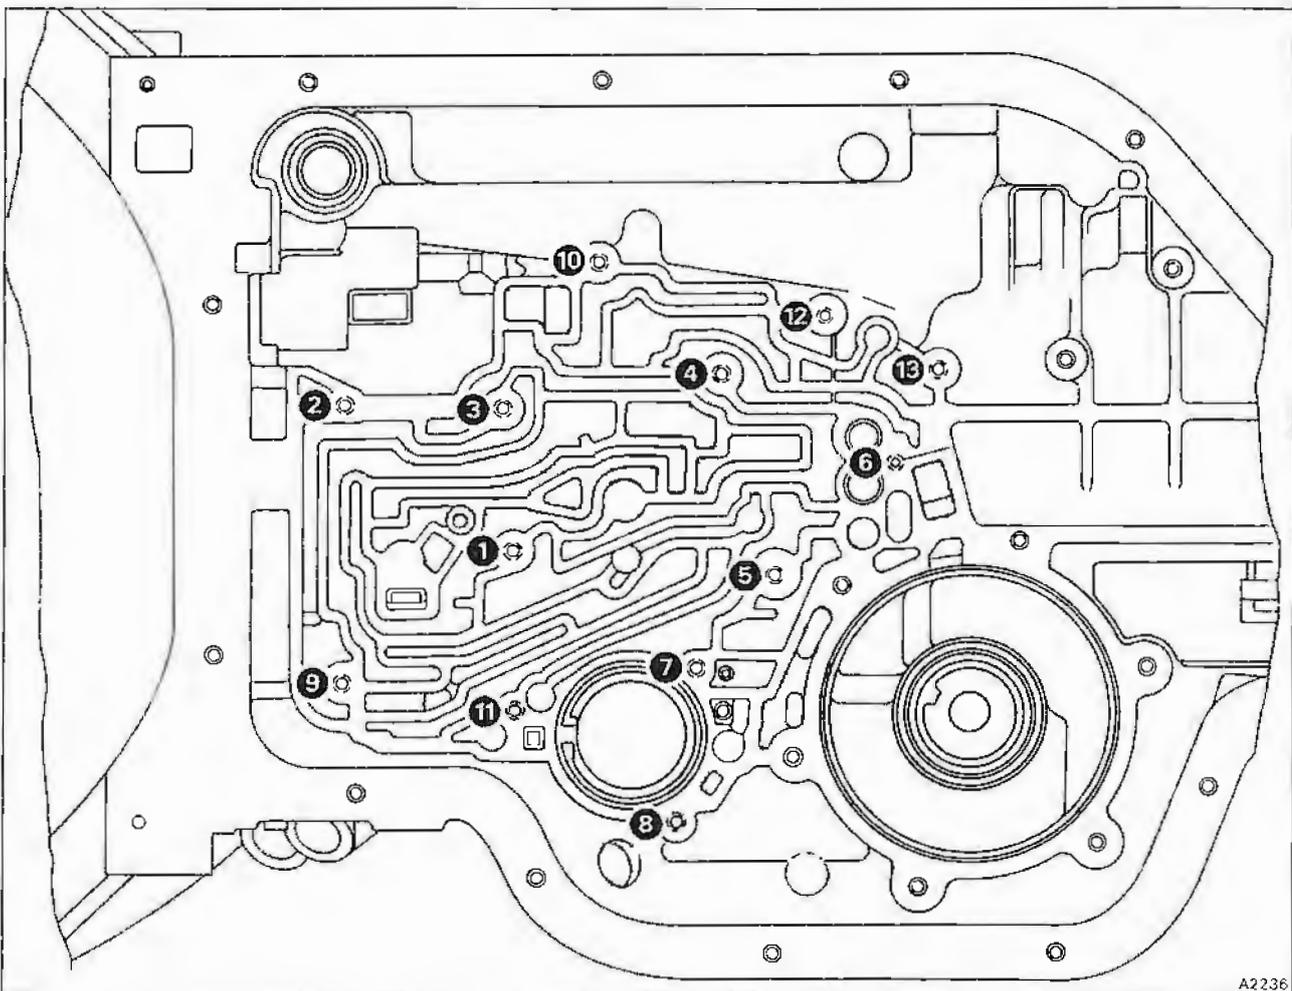

Fig. T21-3 Heli-coil identification – View of underside of transmission case
- Note** Stripped threads in bolt holes are repairable with Heli-coil inserts (see fig. T21-3 and Heli-coil chart).
Refer to figure T21-3 and the Heli-coil information chart, for the correct drill and tap sizes, before commencing any repair work.
When drilling hole No. 4 (see fig. T21-3), the drill may go through to the inside of the case. Located just behind this hole are the intermediate clutch splines. Therefore, the burrs **must** be removed from the clutch splines.